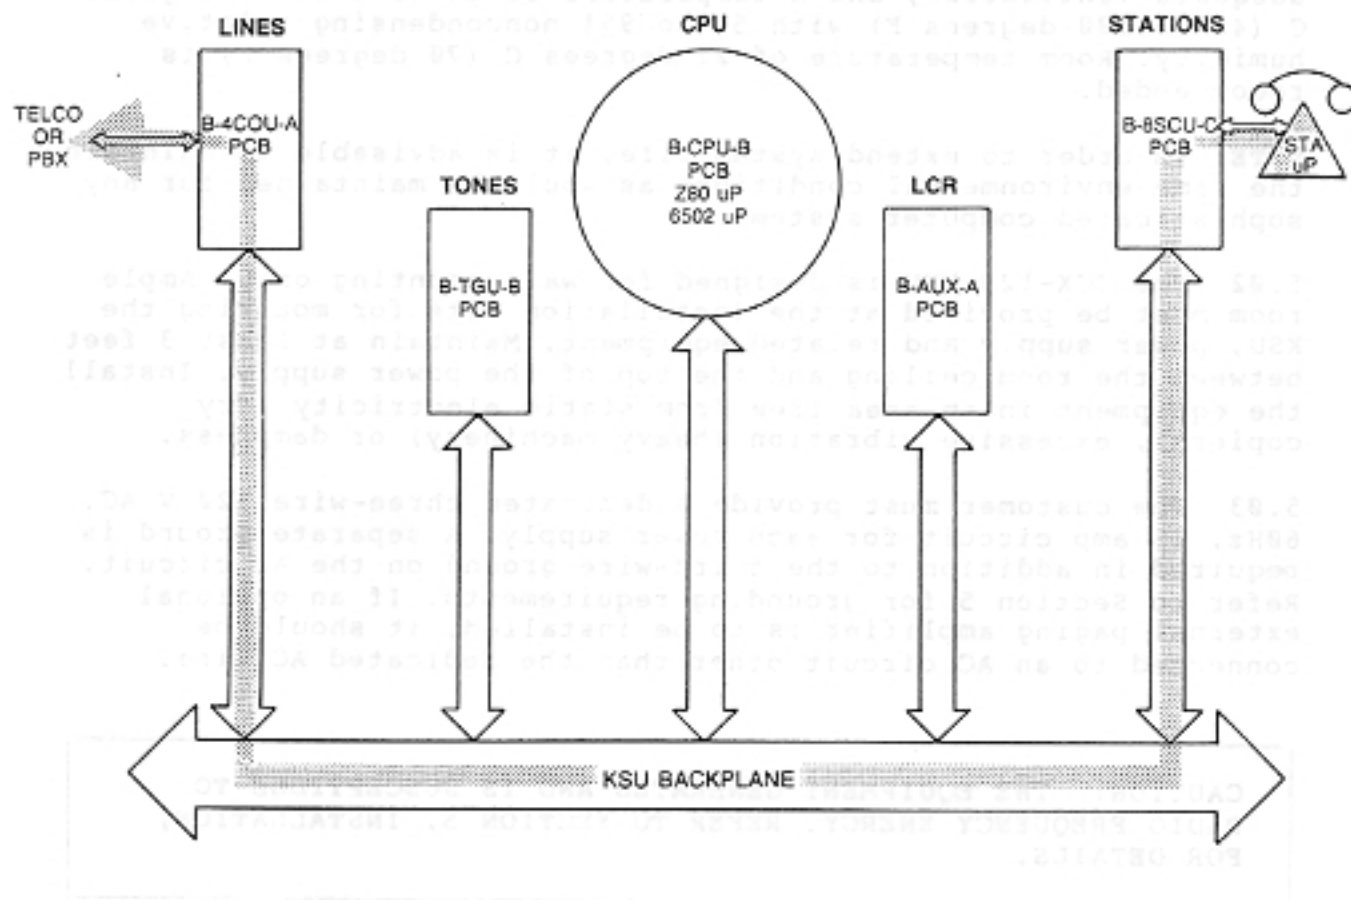

Figure 1-9 BASIC BLOCK DIAGRAM, TCX-128
4.01 The TCX-128 (Figure 1-9) uses microprocessors in the KSU and in each key telephone to control the system. The microprocessors are "micro" sized computers which allow digital (microprocessor) commands to make the analog (voice) connections between the conversing parties. This design allows for sophisticated operation in a compact, economical system. It also allows the system to be customized from a programming terminal easily and quickly, without complex wiring or expensive hardware additions.
4.04 When a call rings into a B-4COU-A PCB (Figure 1-9), the 280 checks the system memory and tells the 6502 traffic controller to ring those stations programmed to get ringing for the line. When an internal station answers the call, the microprocessors switch an analog path between the line and the station so the parties can talk to each other. The inverse of this happens when a call is placed. If an Intercom call is made, the microprocessors switch an analog path between two stations.